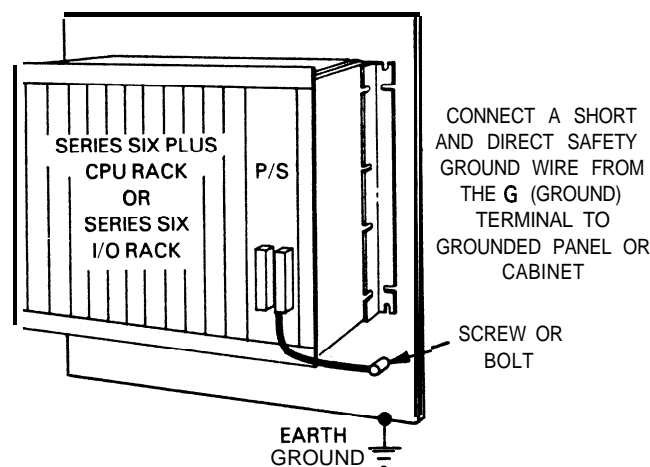

Figure 3.13 RACK SAFETY GROUND WIRING
1. **Safety Ground.** This connection should be made from the GND terminal or the rack power supply directly to system earth ground. The purpose of this connection is to provide a guaranteed current path to ground in case a malfunction occurs within the rack or the rack is incorrectly wired. Figure 3.13 illustrates recommended wiring for the rack safety ground.